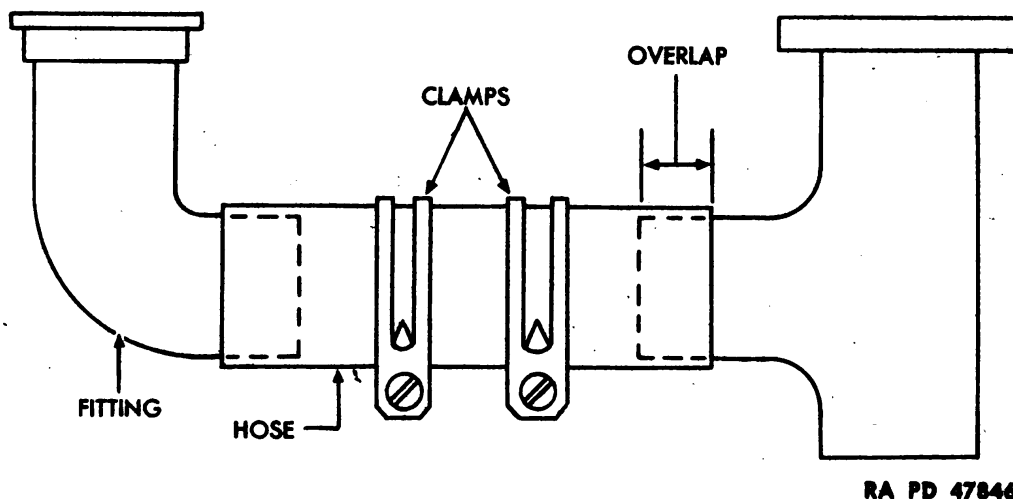

Figure 14 – Water Hose Installation
42. HOSE REPLACEMENT (fig. 14).
a. **Removal.** Loosen clamps and move them to middle of hose. This will leave both ends of hose free to be manipulated over end of fittings (fig. 14).